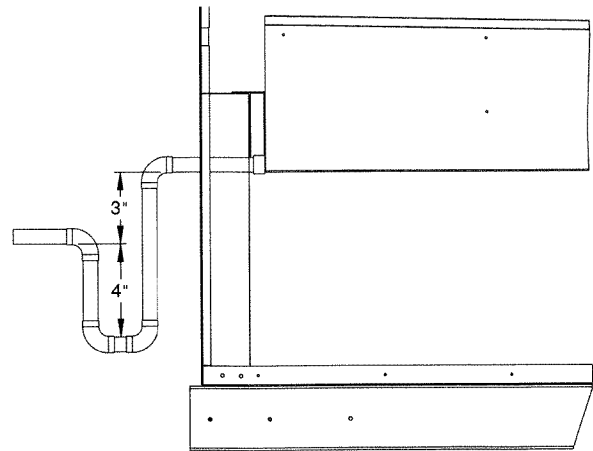

Fig. 17 — Condensate Drain Trap Piping Details
Step 6 — Trap Condensate Drain — See Fig. 4-9 for drain location. Condensate drain is open to atmosphere and must be trapped. Install a trapped drain at the drain location. One 1-in. female coupling is provided inside the unit evaporator section for condensate drain connection. A trap at least 4-in. deep must be used. See Fig. 17. Trap must be installed to prevent freeze-up.